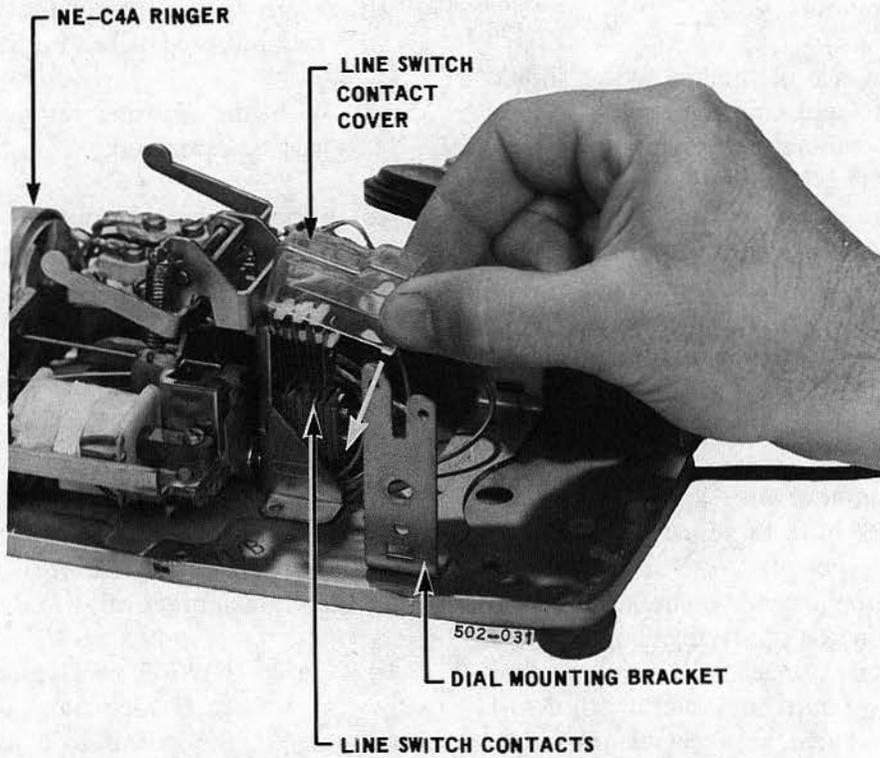

Fig. 15 - Removing Line Switch Cover
5.08 Remove the line switch cover by depressing the sides between the thumb and index finger to disengage the side tabs, move the cover down slightly to disengage the top tab, then tilt the cover towards the base and slide up to remove. (See Fig. 15.)